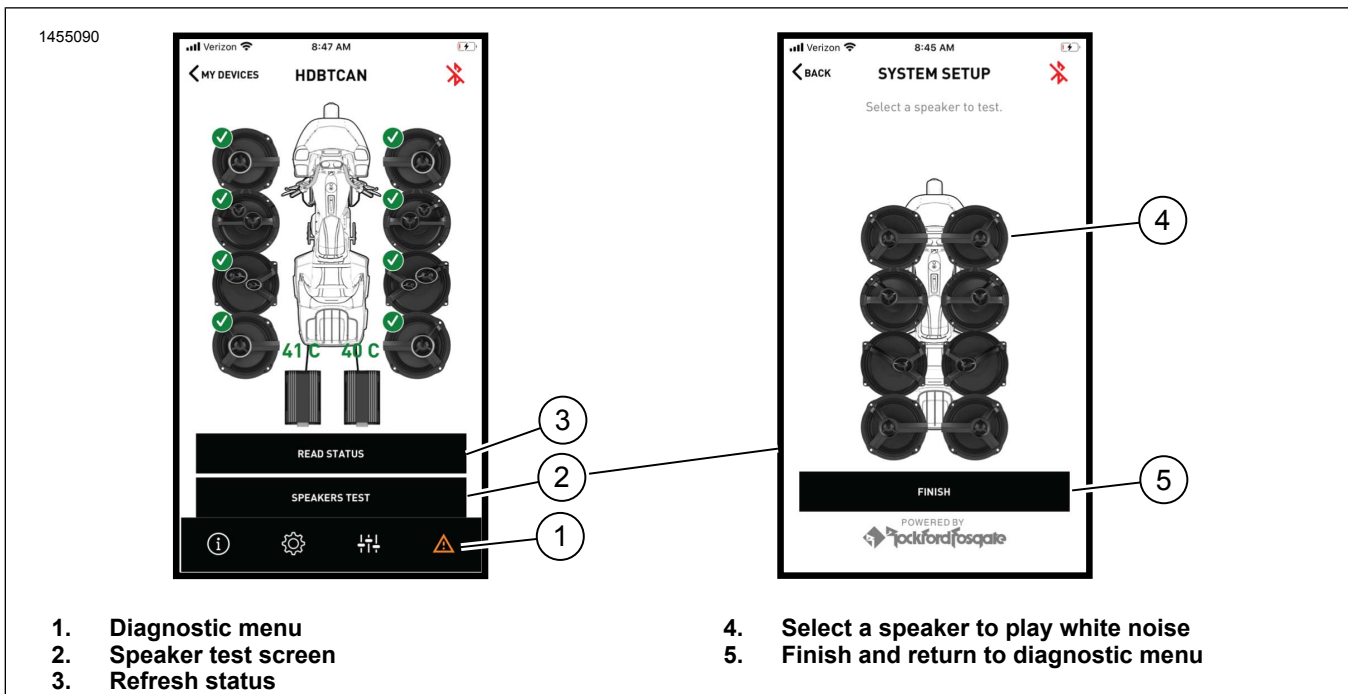

Figure 21. Diagnostic Menu
5. See Figure 21. Diagnostic menu screen.
- a. Diagnostic menu icon (1) displays sound system status.
- b. Open the speaker testing screen (2).
- c. Refreshes speaker and amplifier status (3) after component repair.
- d. Select speaker for white noise (4) test and functionality.
- e. Return to diagnostic menu screen (5).